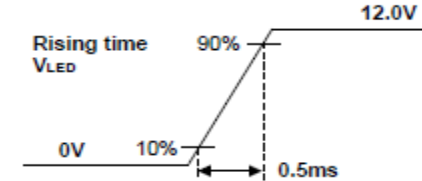

Figure 5. Inrush Measure Condition
- Measure condition (Figure 5)